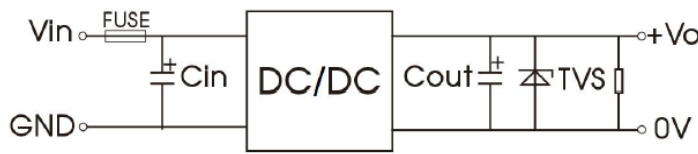

Fig 1
1. We recommend using the recommended circuit shown in Fig. 1 during product testing and applications, otherwise please ensure that at least a 100μF electrolytic capacitor is connected at the input in order to ensure adequate voltage surge suppression and protection.